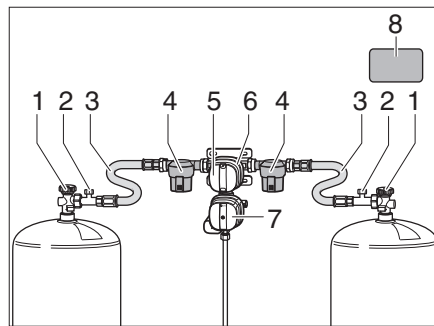
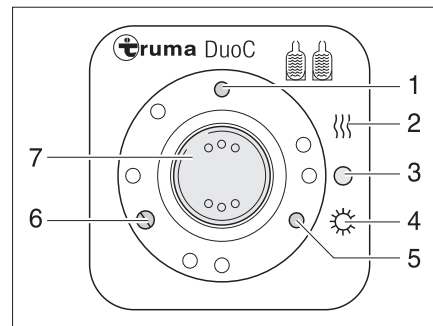
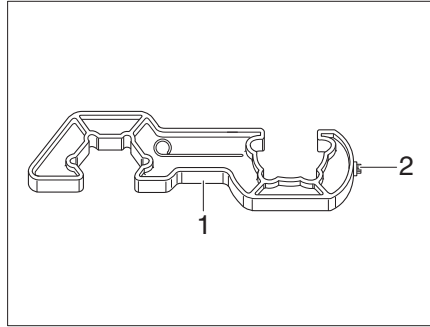
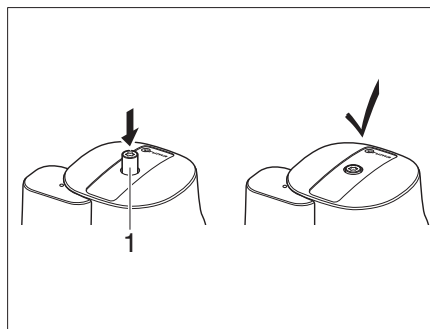

Fig. 83 DuoControl switching facility
Fig. 84 Operating unit
Fig. 86 Screw aid
Fig. 87 Crash sensor
The DuoControl switching facility consists of a switching valve (Fig. 83,6) and the operating unit (Fig. 84). The switching valve is mounted between the high-pressure hoses (Fig. 83, 3). The knob (Fig. 83,5) on the switching valve is used to select which of the gas bottles is to be used as a primary bottle and which is to be used as a reserve bottle.
The switching valve (Fig. 83,6) is equipped with the regulator defroster "EisEx". This prevents damage to the gas system during the winter months.
A gas filter (Fig. 83,4) that protects the gas system against oil and other contamination is located on each side before the switching valve.
Only the electrical functions can be switched at the operating unit (Fig. 84). The regulator taps (Fig. 83,1) on the gas bottles must be opened manually.
The switching valve provides a constant gas pressure, regardless of which gas bottle is being drawn upon. The two indicator lamps on the operating unit show the filling level of the primary bottle. The primary bottle is full when the green indicator lamp (Fig. 84,6) lights up. The primary bottle is empty when the red indicator lamp (Fig. 84,5) lights up. The gas is then supplied via the reserve bottle.
- Open the regulator taps (Fig. 83, 1) on the gas bottles.
- Use the knob (Fig. 83,5) on the switching valve (Fig. 83,6) to select the gas bottle which is to be the primary source of gas (primary bottle). Always turn the knob as far as it will go.
- Set the rocker switch (Fig. 84,7) to "O" (Fig. 84,3). The yellow indicator lamp (Fig. 84,1) goes out.
- Close the regulator tap (Fig. 83,1) on the gas bottles.
The indicator lamps on the operating unit (Fig. 84,5 and 6) indicate in the vehicle interior whether the primary bottle is ready for operation.
If the green indicator lamp (Fig. 84,6) goes out during operation and the red indicator lamp (Fig. 84,5) lights up, the gas bottle selected as the primary bottle is empty and has to be replaced. The reserve bottle continues supplying the gas appliances with gas.
- ▷ Use the enclosed screw aid (Fig. 86,1) to connect and disconnect the high-pressure hoses. It ensures the required tightening torque and prevents damage to the screw connection through using unsuitable tools.
- Close the regulator tap (Fig. 83, 1) on the empty gas bottle.
- Unscrew the high-pressure hose (Fig. 83,3) from the gas bottle using the screw aid (Fig. 86).
- Connect the full gas bottle to the high-pressure hose (Fig. 83,3).
- Open the regulator tap (Fig. 83, 1) on the gas bottle.
- Set the knob (Fig. 83, 5) on the switching valve (Fig. 83, 6) with half a turn, so that the newly replaced gas bottle will serve as a reserve bottle.
- Press the button (Fig. 83, 2) for the hose break guard at the high-pressure hose to activate it.
- If necessary, press the reset button (Fig. 87, 1) at the crash sensor.
- ▶ Observe the safety label (Fig. 83, 8) in the gas bottle compartment.
- Use the Torx T20 (Fig. 86,2) at the screw aid to press in the safety release knob (Fig. 87,1), turn it slightly clockwise and hold it for 5 seconds. The crash sensor is ready to operate when the safety release knob (Fig. 87,1) remains in the lowered position.
- After replacing the gas bottle press the green button (Fig. 83,2) at the high-pressure hose (Fig. 83,3) vigorously.